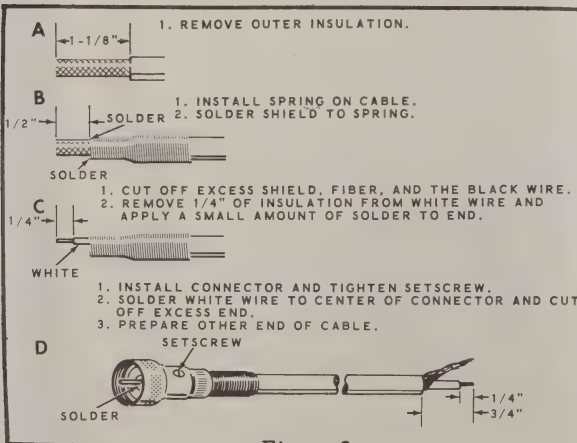

Figure 2
- () Locate the short length of shielded cable. Then prepare both ends and install the microphone connector. Refer to Figure 2.